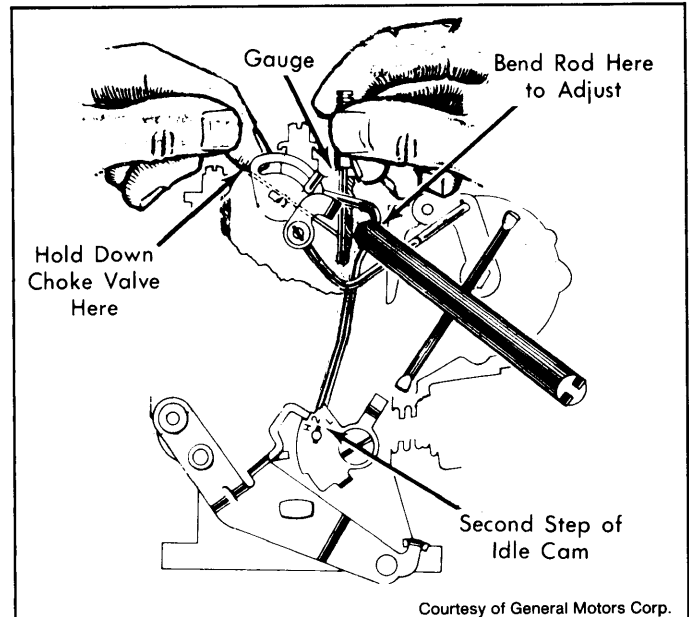

Fig. 5: Adjusting Choke Coil Rod
- 1) Make sure fast idle speed is correctly set. Place fast idle cam follower on SECOND step of fast idle cam, against HIGHEST step. See Fig. 5.